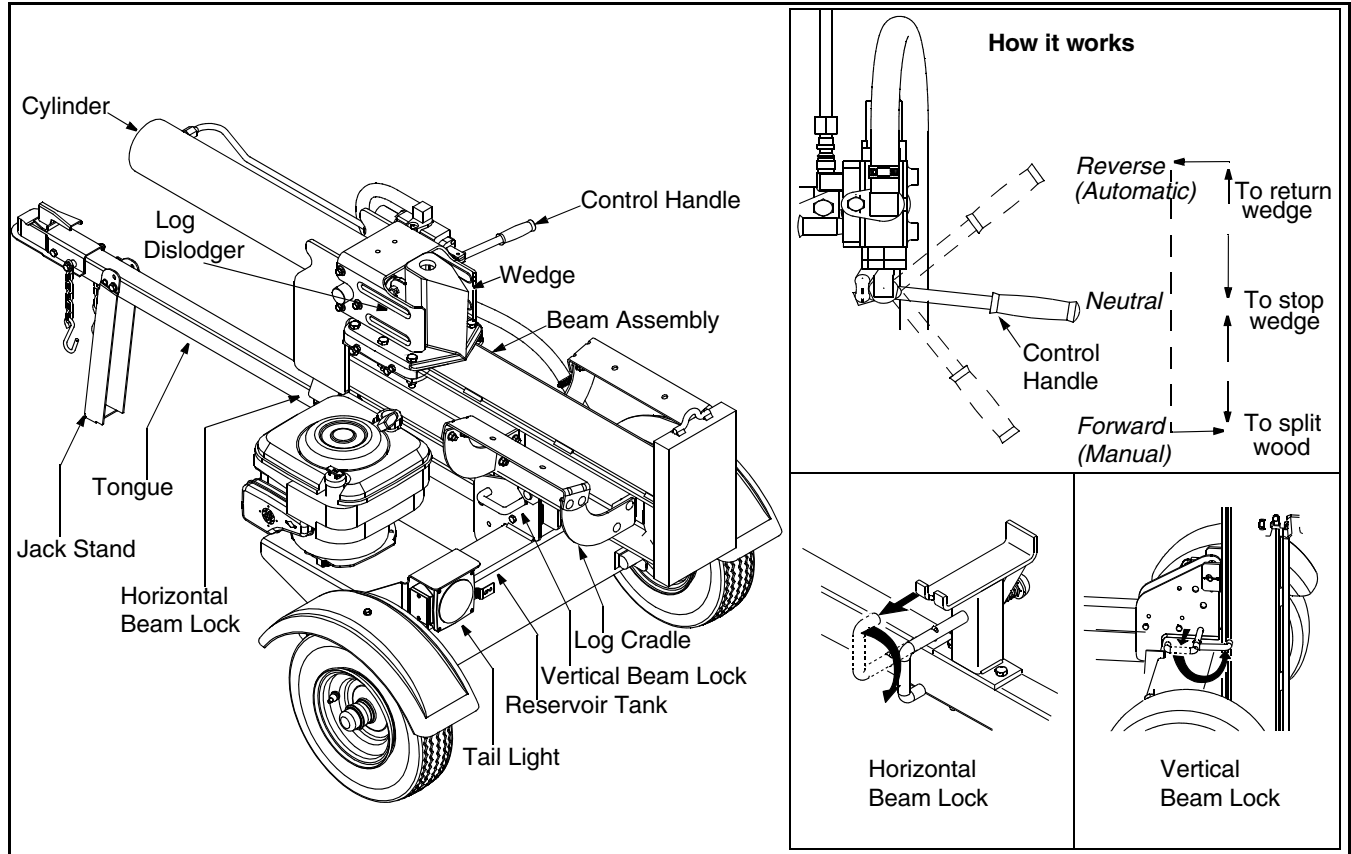

Figure 7
Compare the illustration in Figure 7 below with the controls on your log splitter, and get familiar with its features before starting to operate. Know how to stop the machine quickly in the event of an emergency.
The control handle has three positions. See Figure 7.
These two locks, as their name suggests, are used to secure the beam in the horizontal or the vertical position. The vertical beam lock is located next to the oil filter. The horizontal beam lock is located on the beam support latch bracket. See Figure 7.
- To lock the beam in the vertical position, pull out on the vertical beam lock and rotate it to secure the beam. See Figure 7.
- Pull the vertical beam lock out and rotate it down. See Figure 7. Pivot beam to the horizontal position. The beam will lock automatically in horizontal position.
- Pivot beam lock down to release the beam. Carefully pull back on beam and lower it to the horizontal position. The horizontal beam lock will lock automatically. See Figure 7.